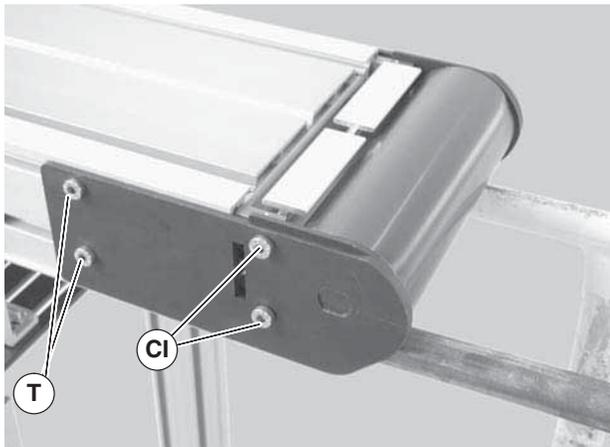

Figure 60
2. On one side of conveyor, loosen the two (2) back fastening screws (Figure 60, item T) and remove two (2) front fastening screws (CI).